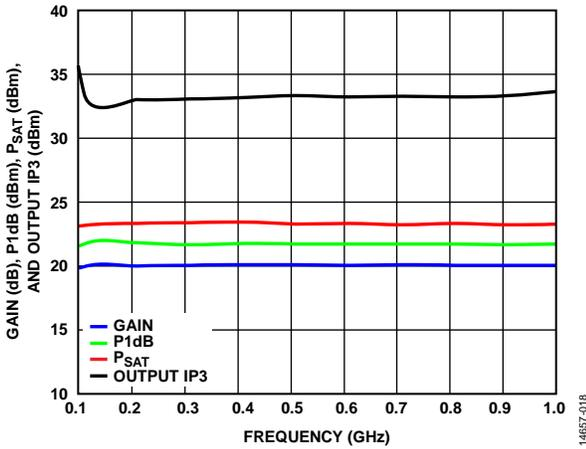
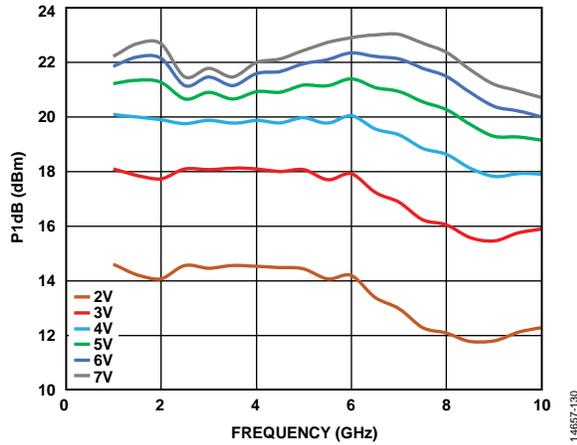
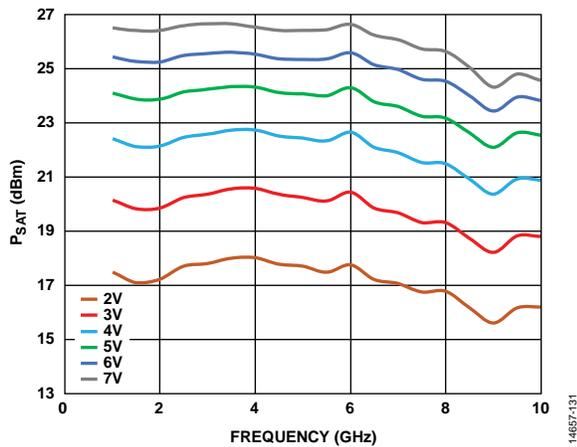

Figure 19. Gain, P1dB, P_{SAT} , and Output IP3 vs. Frequency
Figure 31. P1dB vs. Frequency for Various Supply Voltages, $I_{DQ} = 65$ mA
Figure 32. P_{SAT} vs. Frequency for Various Supply Voltages, $I_{DQ} = 65$ mA
Figure 19, Figure 31, and Figure 32 show that increasing the voltage from 2 V to 7 V typically increases P_{1dB} and P_{SAT} at the expense of power consumption with minor degradation on noise figure (NF).